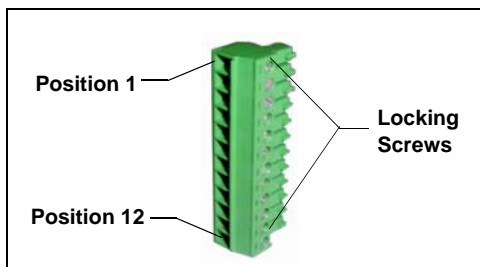

Figure C-5. 12-Position Connector Plug
1. Locate two twisted pairs of wires (P/N 043598) and 12-position connector plugs (P/N 923686) (see Figure C-5) in the Dionex ICS-2100 and Dionex AS Ship Kits.